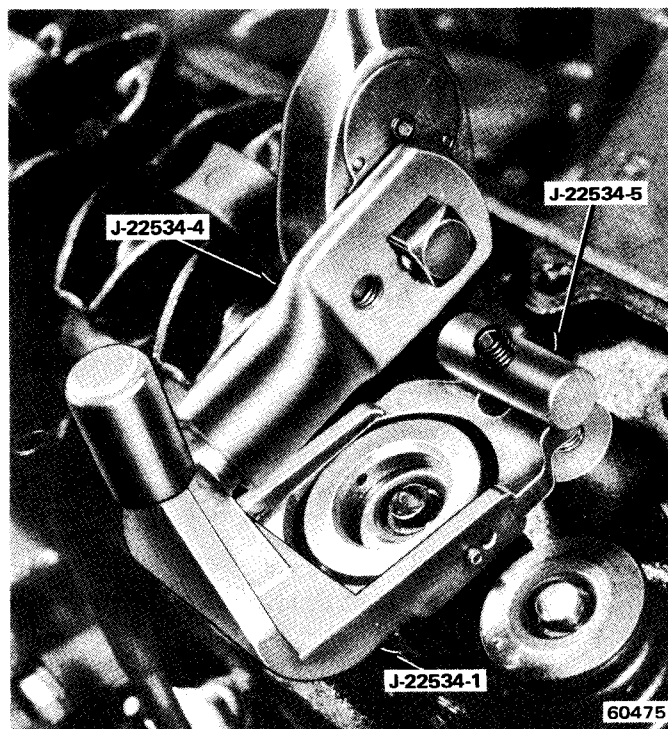

Fig. 1B-10 Valve Spring Removal
- (5) Connect air hose to adapter and maintain at least 90 psi in the cylinder to hold valves against their seats.
- (6) Use Valve Spring Remover and Installer Tools J-52534-1, J-52534-5, and J22534-5 to compress the valve spring and allow removal of the valve locks (fig. 1B-10).